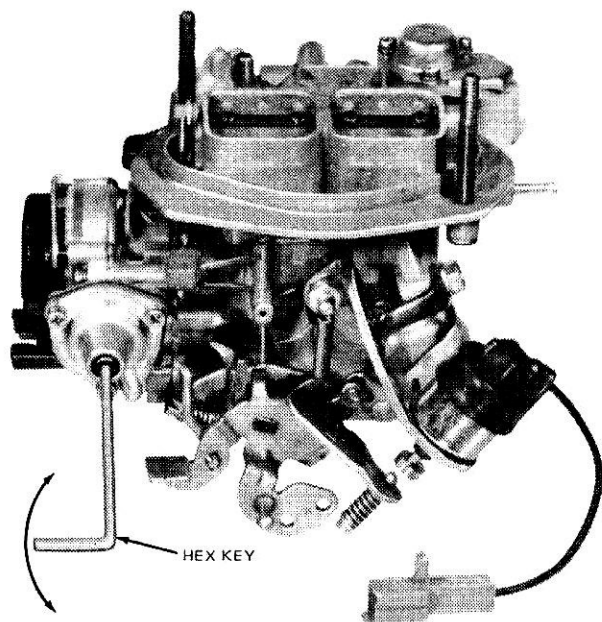

FIG. 4 Adjusting Choke Plate Pulldown
6. To adjust the choke plate-to-air horn clearance, turn the vacuum diaphragm adjusting screw in or out as required (Fig. 4).